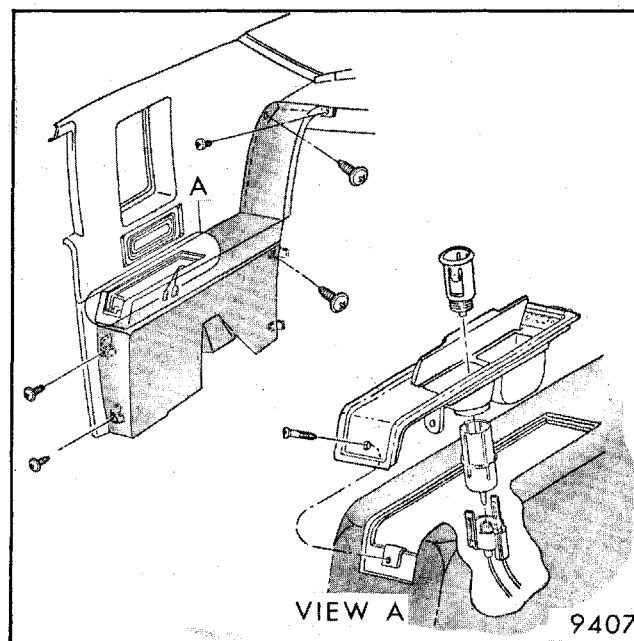

Fig. 6-1-Quarter Lower Trim Assembly Attachment - Oldsmobile "E" Style Shown, Cadillac "E" Similar
The Oldsmobile and Cadillac "E" styles are equipped with floor-mounted type armrests. The armrests extend from arm position to floor and from body lock pillar to rear seat back panel (Fig. 6-1).
3. Remove attaching screw (one on Cadillac "E", three on Oldsmobile "E") at upper rear of armrest (Fig. 6-1).
4. Remove one screw securing armrest/cigar lighter cover plate, lift cover plate and detach electrical wiring, then remove trim assembly (View "A", Fig. 6-1).